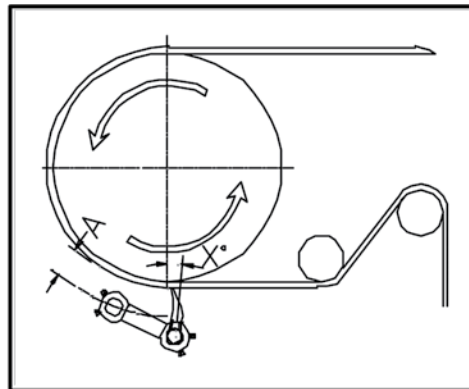
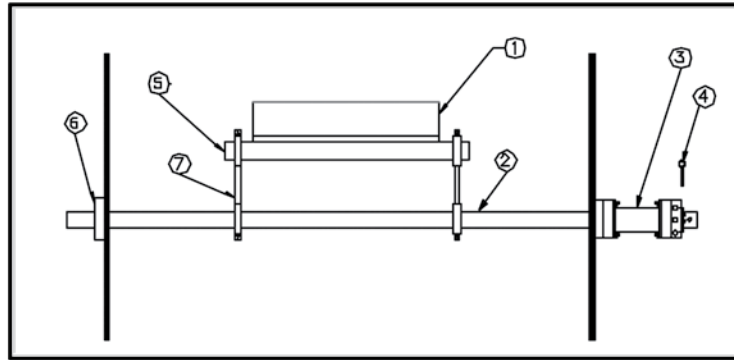

Fig. 1
Fig. 2
The center line of the tensioner pipe (item 2 – fig. 2) should be mounted below the belt about 3 ½" (88.9mm), see dim. "A" – fig. 1. You may have to fabricate the structure in order to do this. You will need a surface of at least 4 ½" (114.3mm) wide to accommodate the tensioner (item 3 – fig. 2) and weld hub (item 6 – fig. 2). You will need to cut or burn a 2 ½" (63.5mm) hole for the tensioner pipe to pass through with its center line at 3 ½" (88.9mm) below the belt as referred to in fig. 1 (dim. "A"). Make sure that hanger brackets are perpendicular to the belt.
Now, remove the tensioner and weld hub from the cleaner and slide the tensioner pipe from the pivot arms (item 7 – fig. 2). You may leave the arms attached to the cleaner mainframe.
Now you can slide the tensioner pipe through the brackets. As you run the tensioner pipe through the first bracket, you will need to slide back through the pivot arms at the same time (see fig. 2). Do not tighten the set screw in the pivot arms yet, let them hang freely on the tensioner pipe. Now, slide the tensioner over the end of the pipe that has the slots in it and insert the tensioner pin (item 4 —fig. 2). After placing the weld hub (item 6 — fig. 2) on the opposite end, hold the pipe so the center line is at 3 ½” (33.9mm). Tack weld the tensioner and weld hub to the mounting brackets.